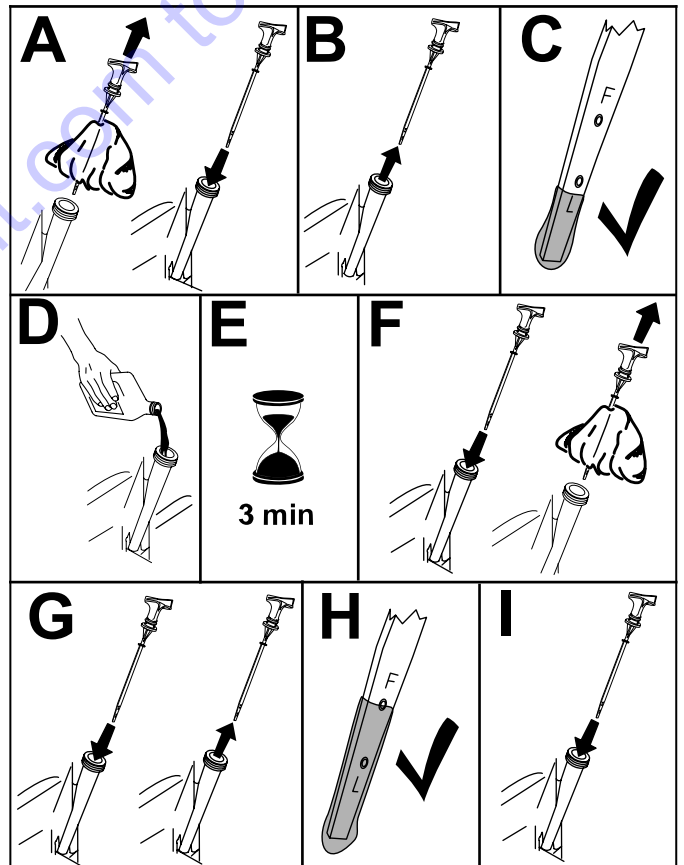

Figure 23
4. Check the engine-oil level as shown in Figure 23.